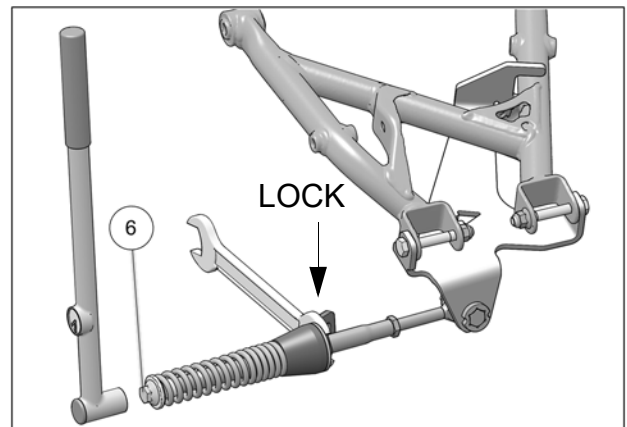

Fig. 11
- Verify that spring assembly bolt (6) is tightened to the recommended torque specification: 75 N•m [55 lb•ft]. Make sure to lock in position, the large nut in front of the rubber cone damper. Refer to Fig. 11